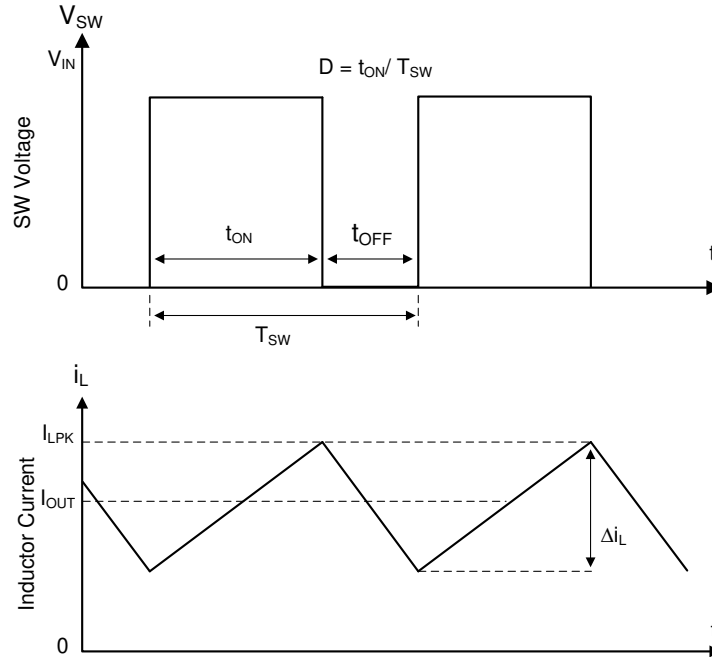

Figure 8-1. SW Node and Inductor Current Waveforms in Continuous Conduction Mode (CCM)
The following operating description of the LMR51430 refers to セクション 8.2 and to the waveforms in 図 8-1. The LMR51430 is a step-down synchronous buck converter with integrated high-side (HS) and low-side (LS) switches (synchronous rectifier). The LMR51430 supplies a regulated output voltage by turning on the high-side and low-side NMOS switches with controlled duty cycle. During the high-side switch on time, the SW pin voltage swings up to approximately V_{IN} , and the inductor current, i_L , increases with a linear slope of $(V_{IN} - V_{OUT}) / L$. When the high-side switch is turned off by the control logic, the low-side switch is turned on after an anti-shoot-through dead time. Inductor current discharges through the low-side switch with a slope of $-V_{OUT} / L$. The control parameter of a buck converter is defined as: